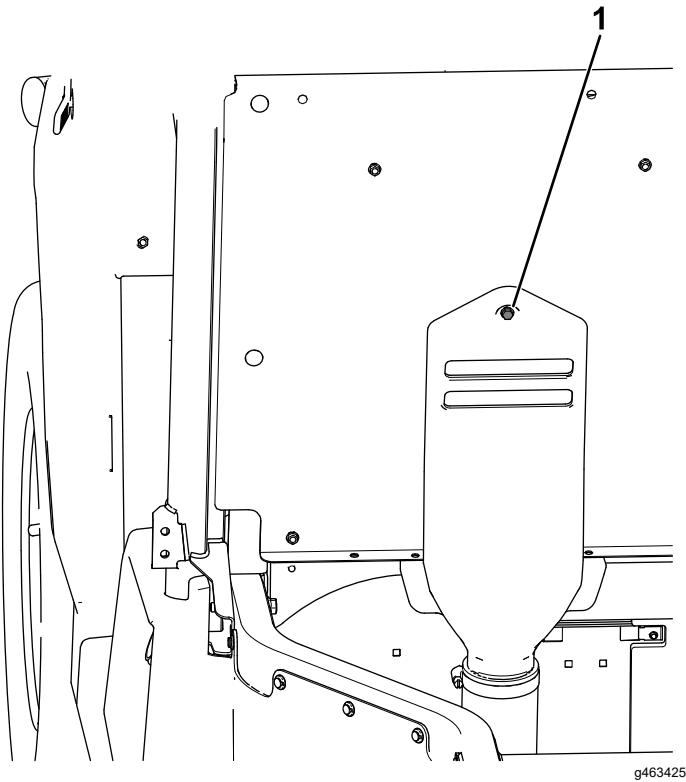

Figure 66
- F. Insert the captive bolt attached to the CVT-intake hood into the hole shown on the seat panel (Figure 66).